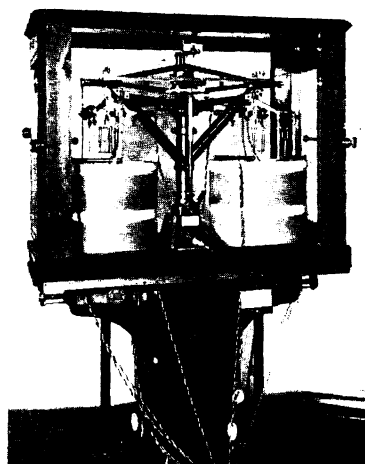

Fig. 61
An electric current (I) can be measured by measuring the force acting on a current-carrying conductor. A simple current-balance was illustrated in Book 2, p. 153. The unit of current (the ampere) is defined in terms of the force acting on a conductor, although the balance used is rather more refined! (Fig. 61). The unit of electric charge (the coulomb) is then defined as the charge which crosses any section of a conductor when 1 ampere flows for one second.
To *define* the ampere the force between two parallel current-carrying conductors is measured. If 1 ampere flows in two long wires 1 metre apart the force acting on each conductor is 2×10^{-7} newtons per metre. In practice coils of wire are used to measure this force (Fig. 61).